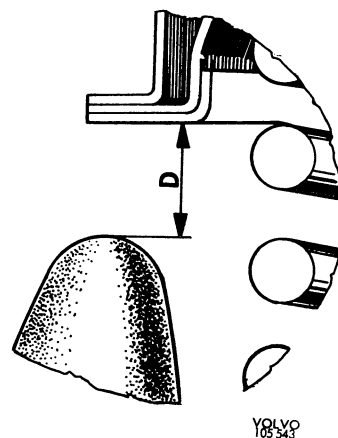

Fig. 6-27. Fitting position
5. Fit the bolt (3). Make sure that the smallest washer (1) is placed nearest the bolt head.
6. Fit the large washer (5) and the nut (6), which must not be tightened.
7. Lower the jack and place it under the wishbone at the outer edge of the spring. Carefully jack up until the distance (D, Fig. 6-27) between the top of the rubber buffer and the front axle member is approx. 40 mm (1½"). Tighten the nut (6) in this position.
The distance (D, Fig. 6-27) between the top of the rubber buffer and the front axle member should be approx. 40 mm (1½") when tightening the nut (6). After fitting, check and if necessary adjust the wheel angles, see under "Wheel alignment".